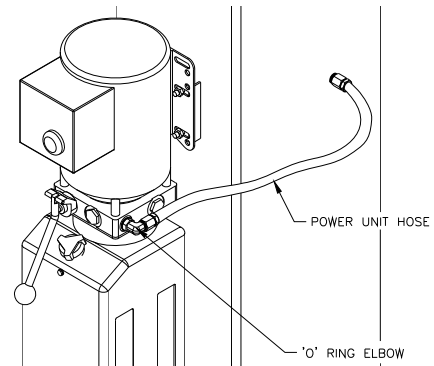

**Fig 3 – Power Unit Mounting**
- 11) Mount Power Unit to power column as shown in **Fig 3**. The (4) mounting hardware nuts are pre-installed on power unit mounting bracket.